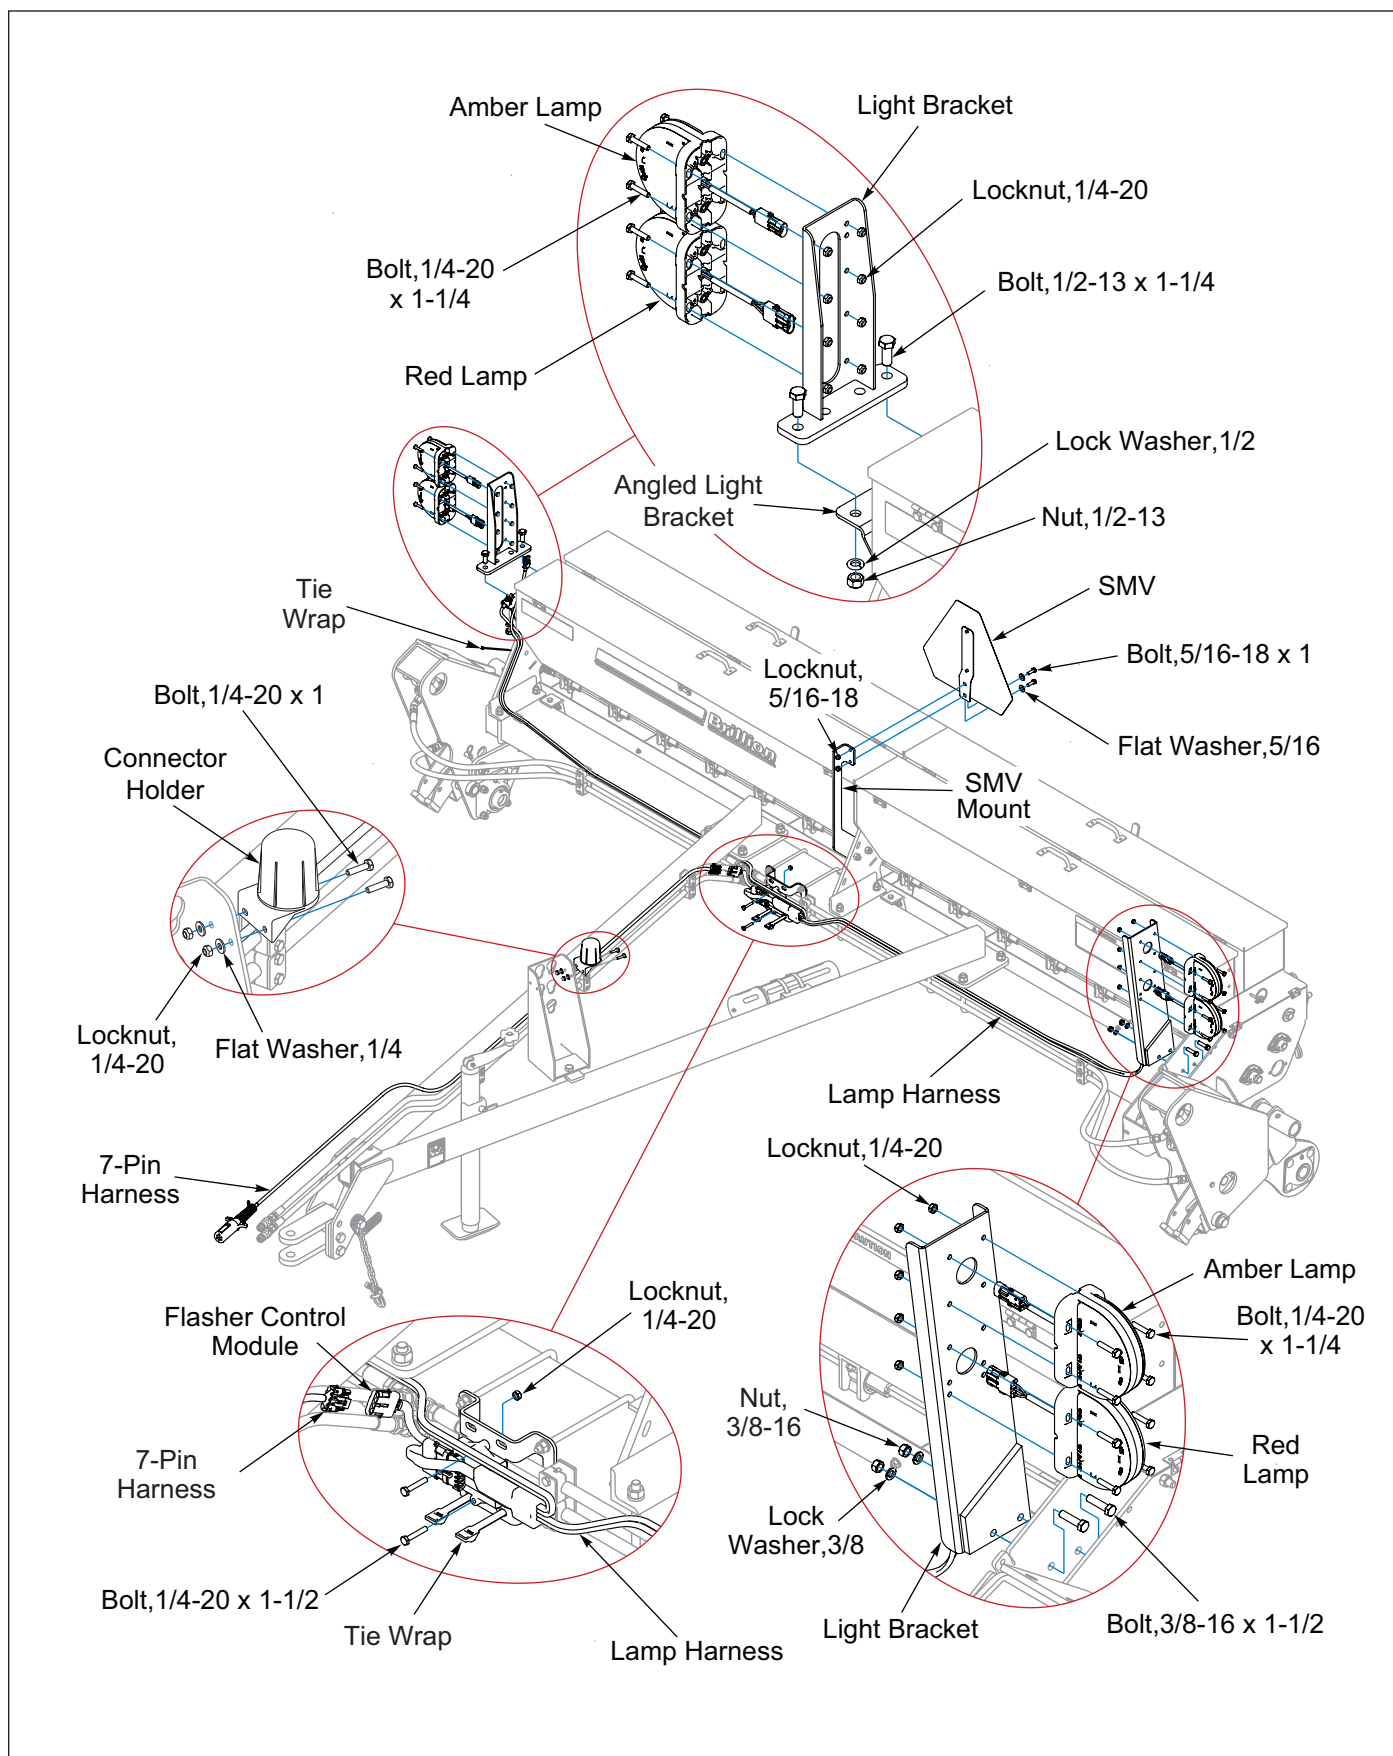

Figure 2-15: Warning Lamp Installation, 8FT and 10FT
1. Attach longer Light Bracket to the Transmission located on the left side of the Seeder, with 3/8-16 x 1-1/2 Bolts, Lock Washers and Nuts. **See Figure 2-15.**